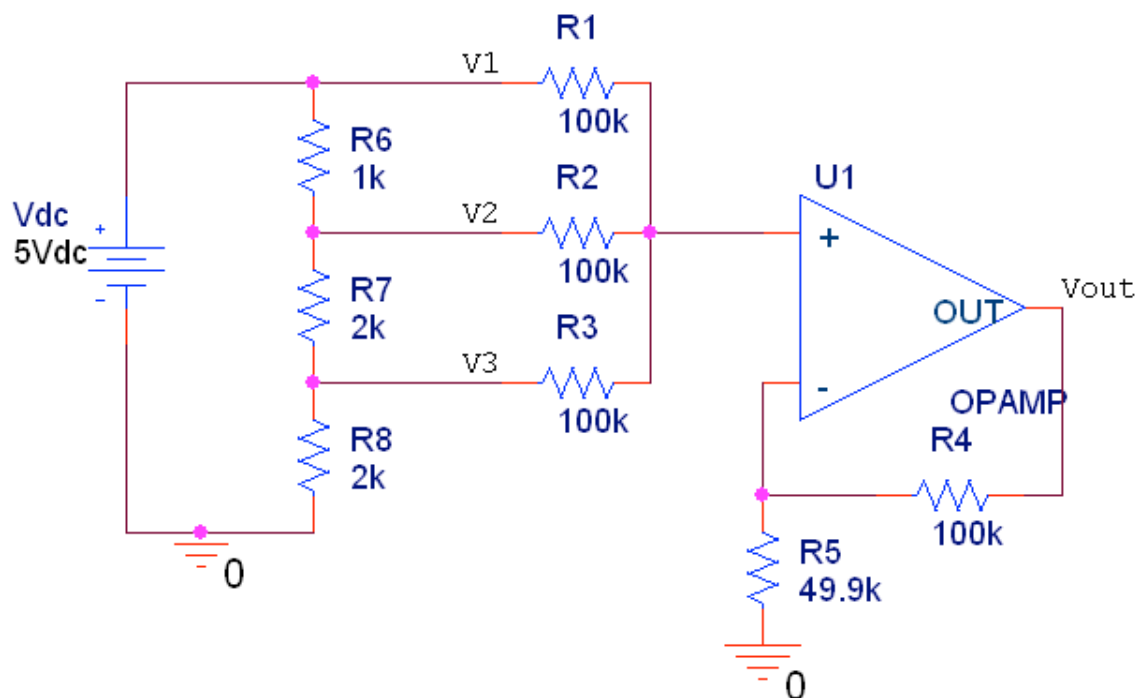

Figure 3: Summer-Circuit with Input Voltages Defined
3. (a) In PSpice, simulate the summer-circuit shown in Figure 3 (using a bias point analysis, as opposed to a time domain analysis), and print the circuit with the bias voltages displayed on every node (simply click the “Enable Bias Voltage Display” button in the toolbar after performing the bias analysis). N.B., you should not print a waveform for this part, just the schematic with the bias voltages displayed.
1. Construct the circuit shown in Figure 3 (pg. 3). Make the following DC measurements of the circuit on the digital multimeter. Have the TA verify that the output is as expected.